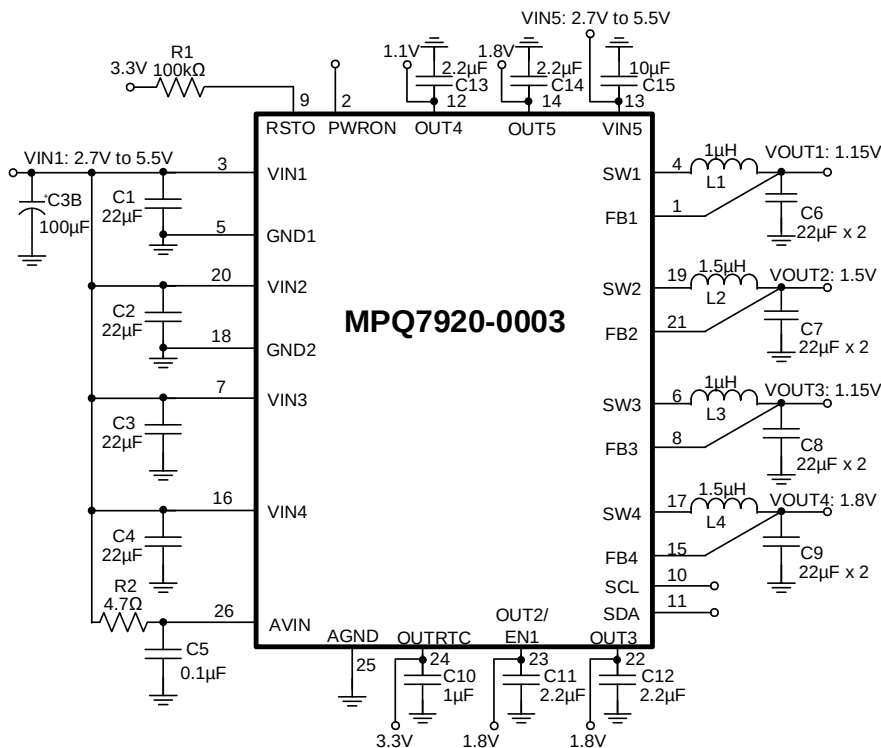

Figure 17: Typical Application Circuit 1 ⁽²⁰⁾ ⁽²¹⁾
18) The recommended layout is based on Figure 17 on page 40.